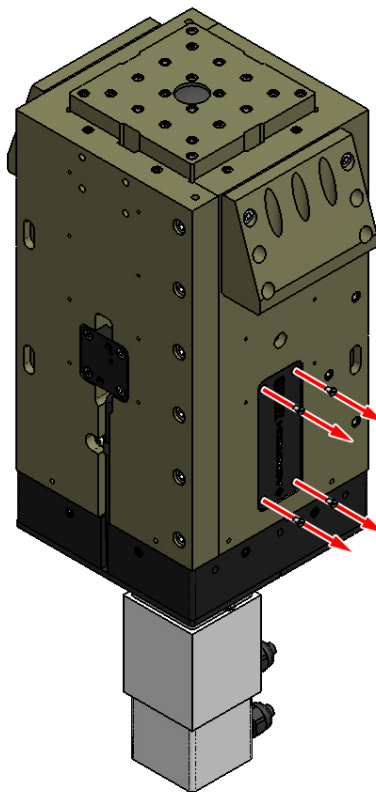

Figure 4-2: Cover Plate Mounting Screw Removal
2. Remove the mounting screws to the cover plate on the side of the stage as shown in Figure 4-2 to gain access to the inside of the stage.